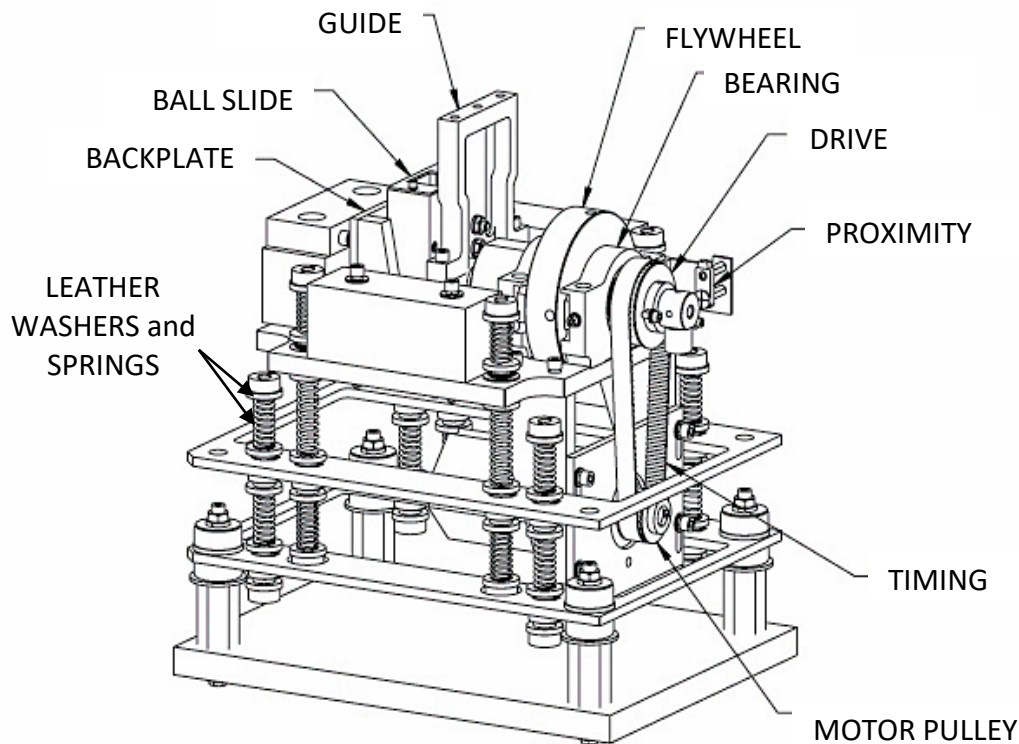

Figure 15 – Preventative Maintenance Diagram
- ✓ Annually take the system offline; remove the side panels of HG-800 Geno/Grinder. Inspect the internal components for wear and loose hardware. (Figure 15)
Remove the side panels of HG-800 Geno/Grinder. Inspect the internal components for wear and loose hardware, as shown in Figure 15.